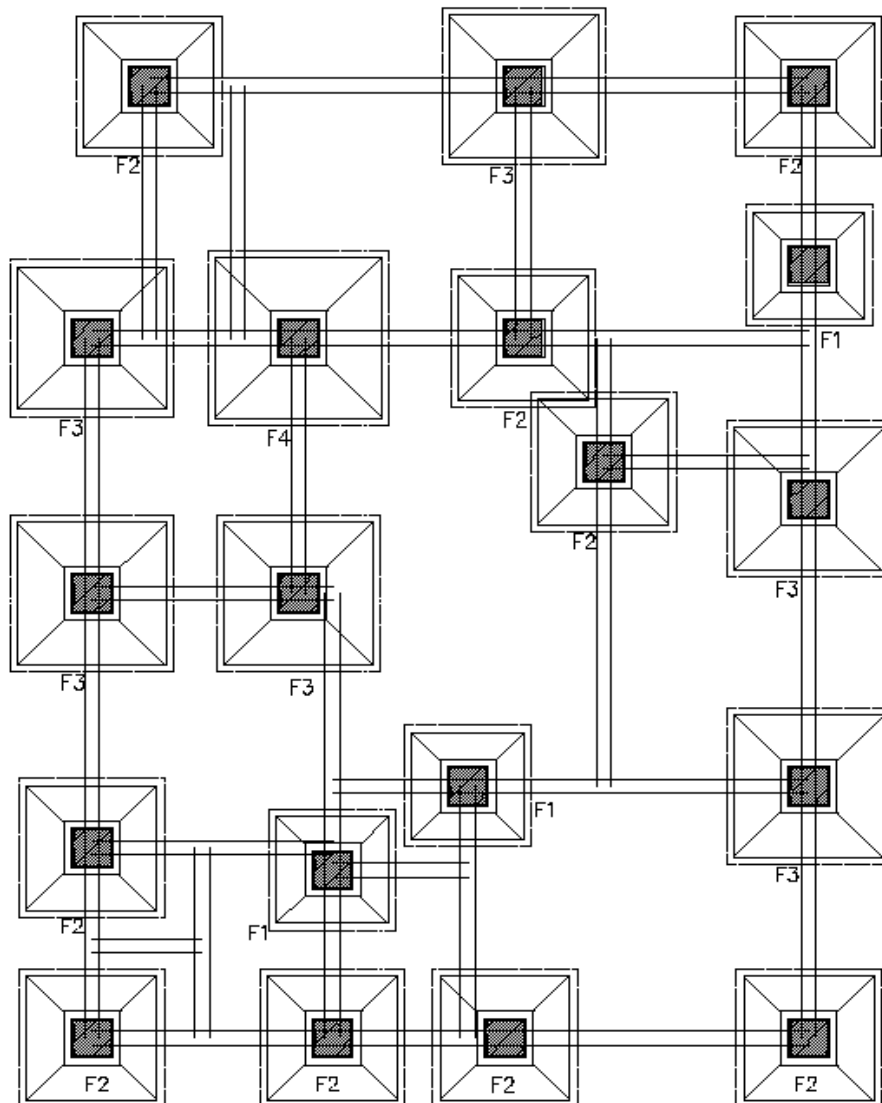

Fig 4.1.8
1. Click on the Draw in Cad from tool bar (fig 4.1.8)